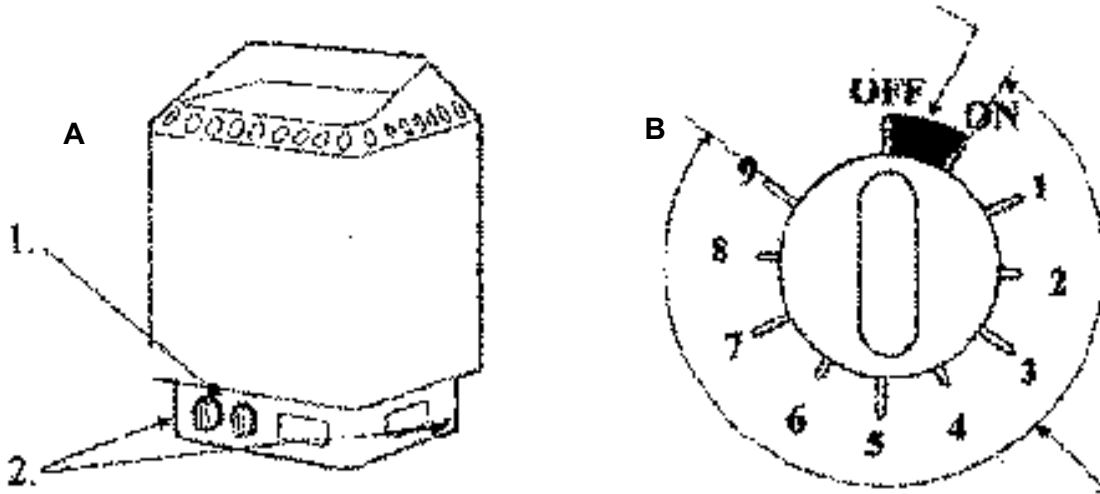

Figure 20. 2.1kW and 8.0kW Heater Control
**NOTE:** The control function for the 2.1kW heater and the 8.0 kW heater are identical. Please follow the instructions below. The numbers in **Figure 20(A)** indicate that the user can change the location of the controls: